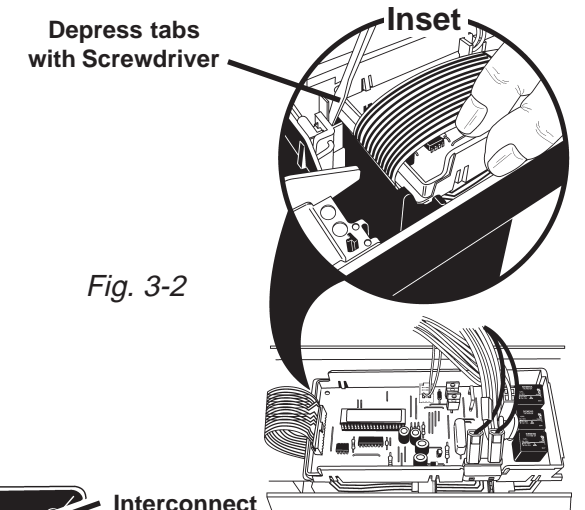

Fig. 3-2
2. Use a flat bladed screwdriver to depress the holding tabs at the left end of the control board assembly while pulling up. (Fig. 3-2, Inset)